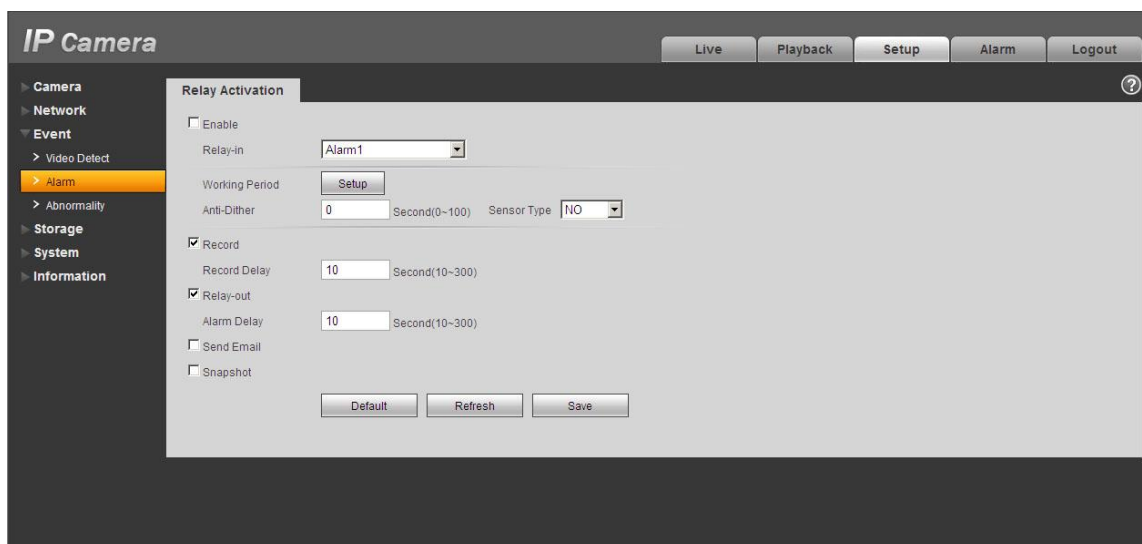

Figure 2-4 Alarm
The alarm interface is shown as in Figure 2-4. Please follow the steps listed below for local alarm input and output connection.
- 3) Open the Web, go to the Figure 2-4. Please set the alarm input 01 port for the first channel of the I/O cable (No.3 pin). The alarm input 02 is for the 2nd channel of I/O cable (No.4 pin). Then you can select the corresponding type (NO/NC.)
Secure the screw with inner hex wrench after adjustment. See Figure 2-4.